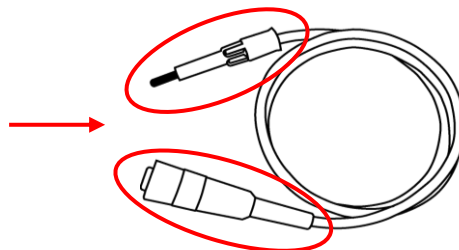

Figure 3-4
- ⚡ CAUTION** Do not touch the alligator clipper on the test cable as *Figure 3-4* shows when the main unit is in a testing state. This is because the insulation of the plastic layer is not enough and touching it may cause hazards.